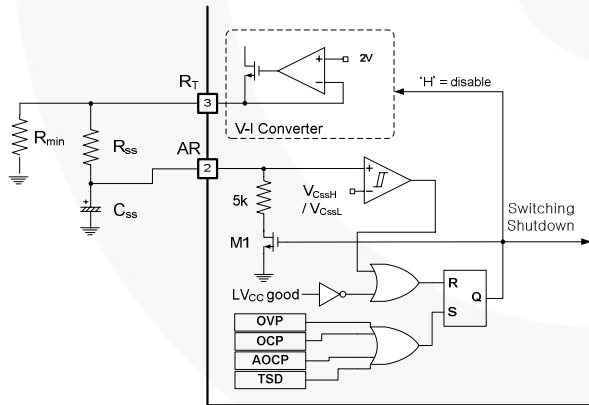
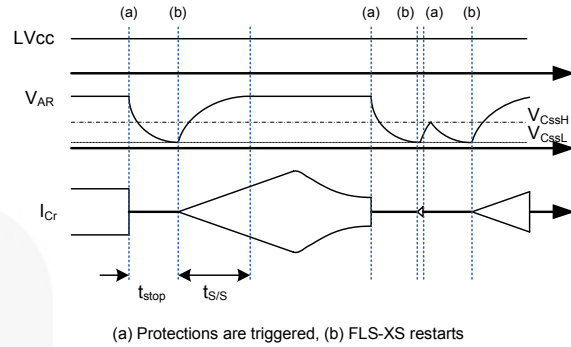

Figure 20. Internal Block of AR Pin
Figure 21. Self Auto-Restart Operation
4. Self Auto-Restart: The FLS-XS series can restart automatically even when any built-in protections are triggered with external supply voltage. As can be seen in Figure 20 and Figure 21, once a protection is triggered, the M1 switch turns on and the V-I converter is disabled. C_{SS} starts to discharge until $V_{C_{SS}}$ across C_{SS} drops to $V_{C_{SSL}}$. Then, all protections are reset, M1 turns off, and the V-I converter resumes. The FLS-XS starts switching again with soft-start. If the protections occur while $V_{C_{SS}}$ is under $V_{C_{SSL}}$ and $V_{C_{SSH}}$ level, the switching is terminated immediately, $V_{C_{SS}}$ continues to increase until reaching $V_{C_{SSH}}$, then C_{SS} is discharged by M1.